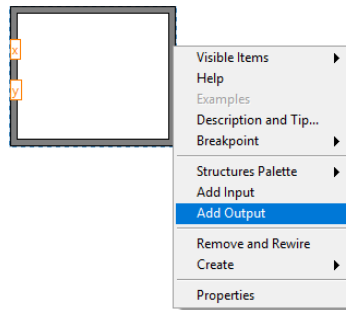

Fig.2.2. add output
5. Right-click the border of the Formula Node and select **Add Output** from the shortcut menu as in fig 2.2.